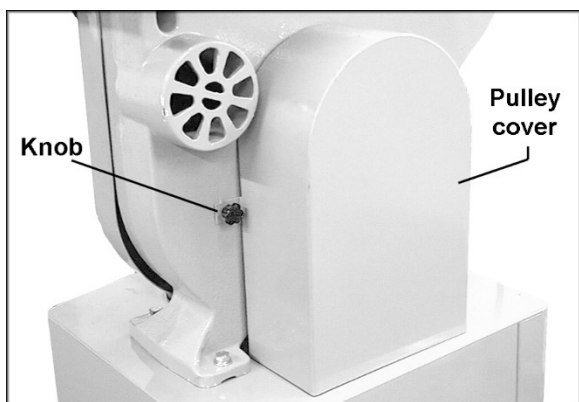

Figure 17
10. Screw the two small knobs (Figure 17) into the threaded holes in the saw body. Slide the pulley cover down over the knobs and tighten the knobs.